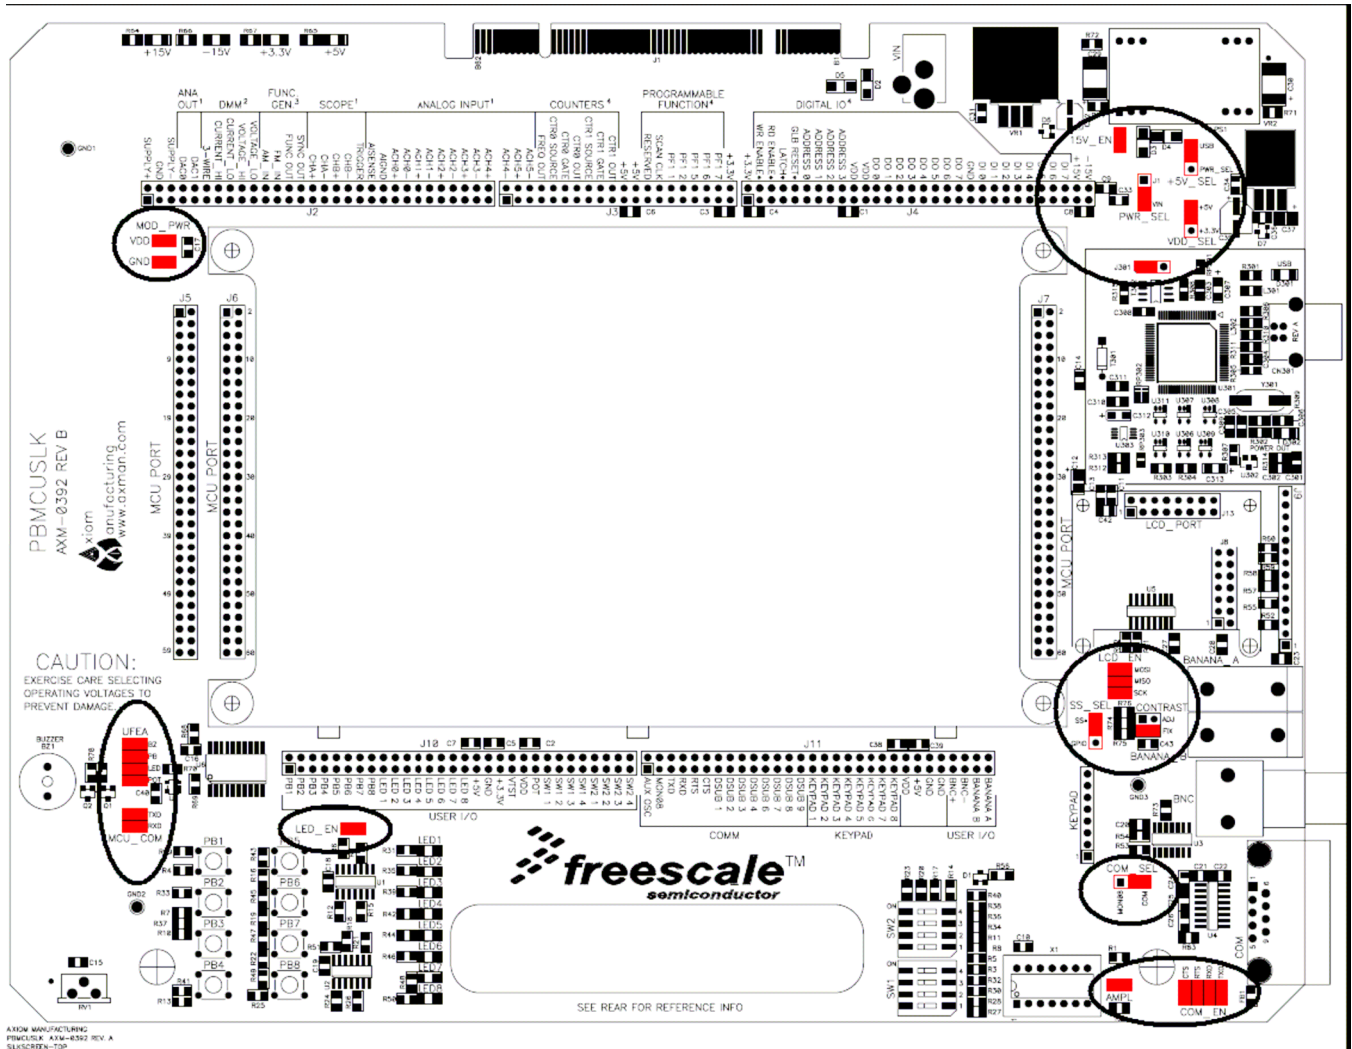

Figure 2. Project Board Jumper Settings
2. Verify that all the jumper settings are configured properly on the project board as shown by Figure 2. Highlighted blocks indicate the on or installed position of jumpers. Circles indicate the location on the project board where the jumpers are located.